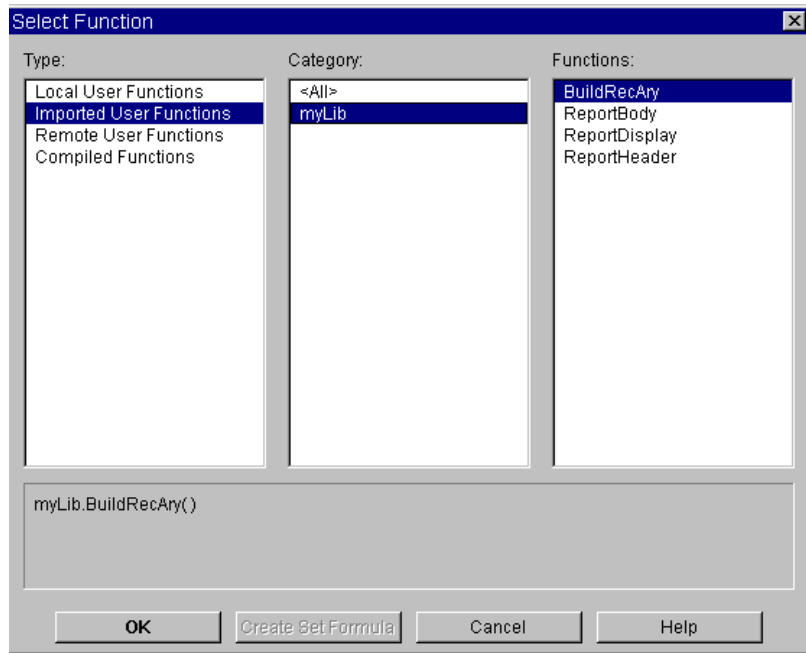

Figure 227 Selecting a Function from an Imported Library
- 5 Open the Call Function object menu and click Select Function to show a list of the functions imported with the Load Lib command. Select **myLib.BuildRecAry** as shown in Figure 227.